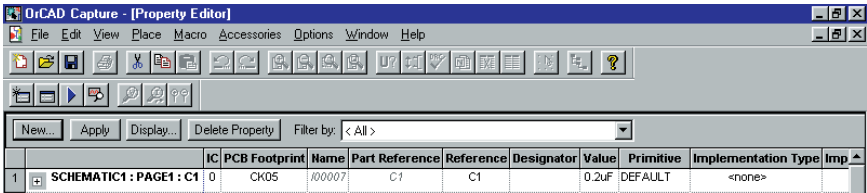

FIGURE A-4 Property Editor
7. Once the circuit is completed, it can be simulated. However, if the circuit were simulated at this point, we would find that the results would not accurately represent the actual operation. We must give the capacitor an initial condition. Since it is initially uncharged, the voltage across the capacitor is 0V. Component characteristics are changed by double clicking on the part, which opens the *Property editor* of Capture. Next we click on the **Parts** tab (bottom left) of the Property editor. In order to set the initial condition of the capacitor to 0V, we enter **0** into the *IC* (initial condition) box of the editor. You may find it is necessary to scroll across to locate the appropriate property. The result is shown in Figure A-4.